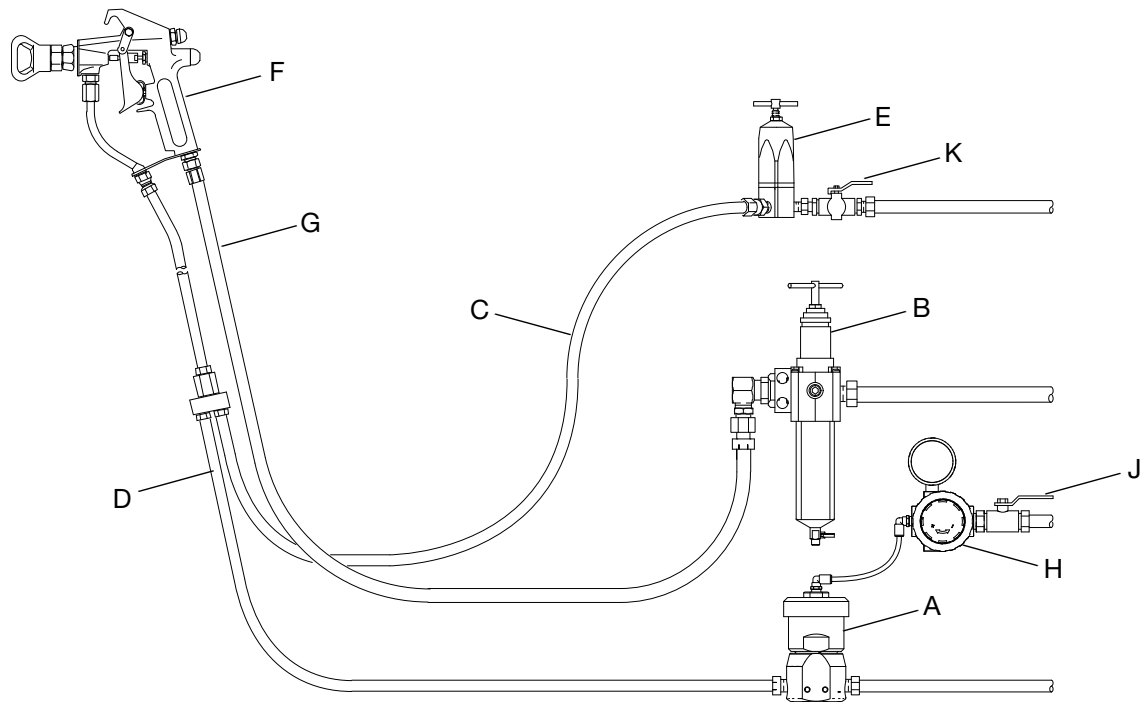

FIG. 1: Typical Installation: Single Circulating Spray Station
The Typical Installation shown in Fig. 1 is only a guide to design a system. For assistance in designing a system to meet your needs, contact your Graco distributor.
1. Install the back pressure regulator (BPR) (A) in the Fluid Return Line (D) or circulation loop return line. See FIG. 1. Verify that the BPR is securely installed in a rigid piping system. If flexible fluid lines are used, the two 1/4 - 20 tapped mounting holes on the side of the regulator should be used to securely mount the regulator.
2. The BPR (A) has one 3/8 inch inlet port and one 1/4 inch gauge port. (The gauge port can be used as an optional inlet port for low flow applications.) The two outlet ports are 3/8 inch npt.